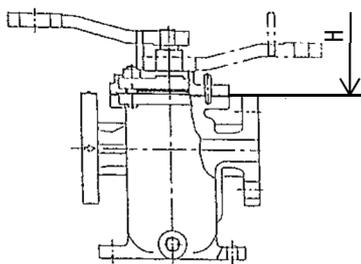

Fig. 2
3. During installation, please secure enough space as shown in <4.1 Example of piping <Figure 2>>for maintenance and inspection (including cleaning of the screen).